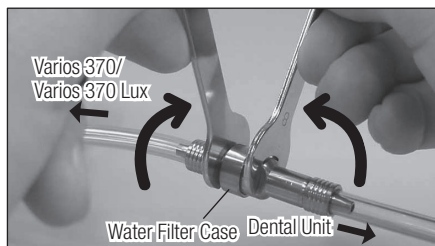

Fig.21
- 2) Mount two Spanner Wrenches (5x8) and turn those as shown in Fig.21.